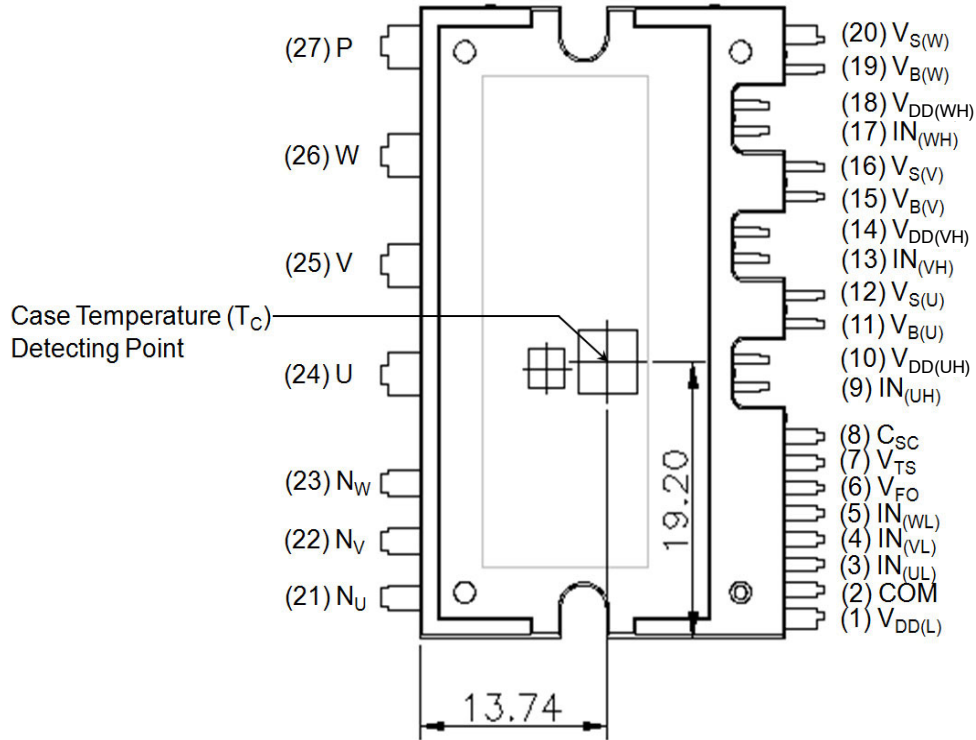

Figure 1. Top View
5. For the measurement point of case temperature ( $T_C$ ), please refer to Figure 1. DBC discoloration and Picker Circle Printing allowed, please refer to application note AN-9190 (Impact of DBC Oxidation on SPM® Module Performance).